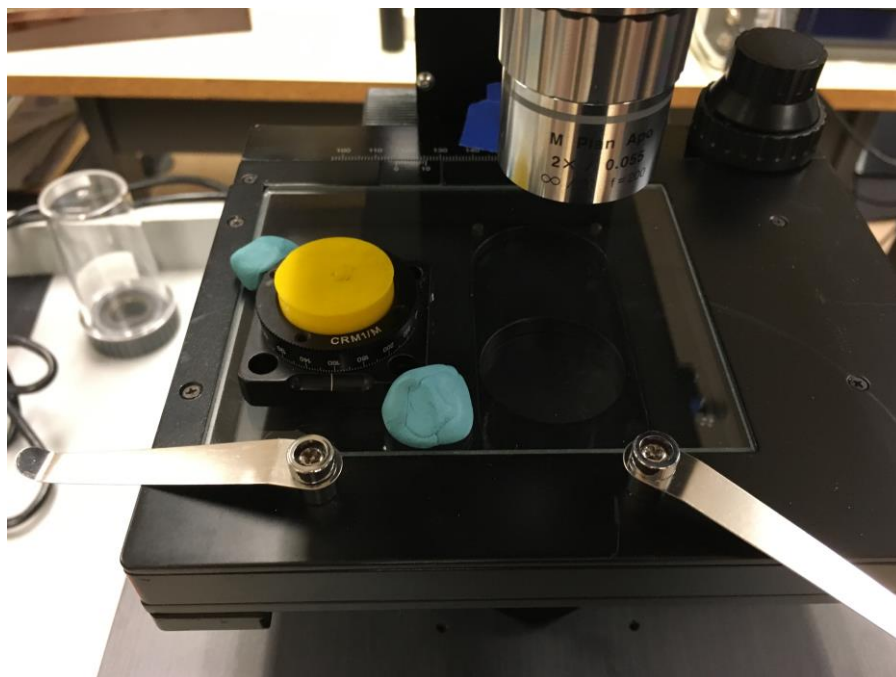

Figure 15 Position of Rotator.
2. **Centering an optic:** Place the rotation stage with the Hinds supplied alignment pinhole onto the stage and fix it with blue sticky tack. It should look like Figure 15. Generally, it’s best to have the mark facing forward for ease of reading the measurement.